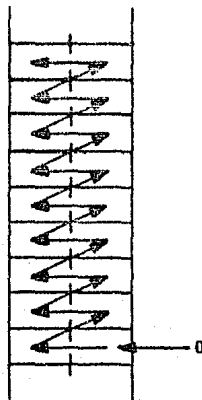

FIGURE 10.2
- C. Let us assume that a 16-digit decimal number represented in packed BCD format (two BCD digits/byte) has to be shifted as shown in the Figure 10.2 in order to mechanize BCD multiplication or division. The operation can be accomplished as follows: